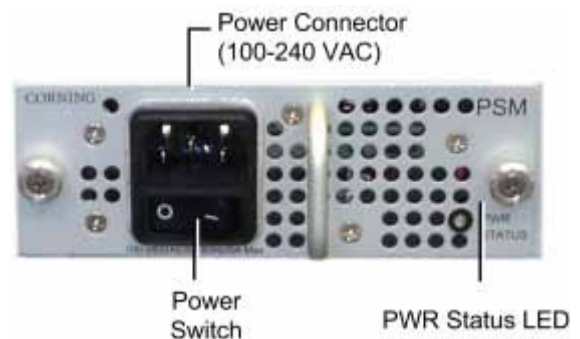

Figure 4-23. PSM-AC LEDs
1. Connect power cable (100-240 VAC) supplied with module to the PSM-AC input connector and to the AC outlet and switch on. See Figure 4-23